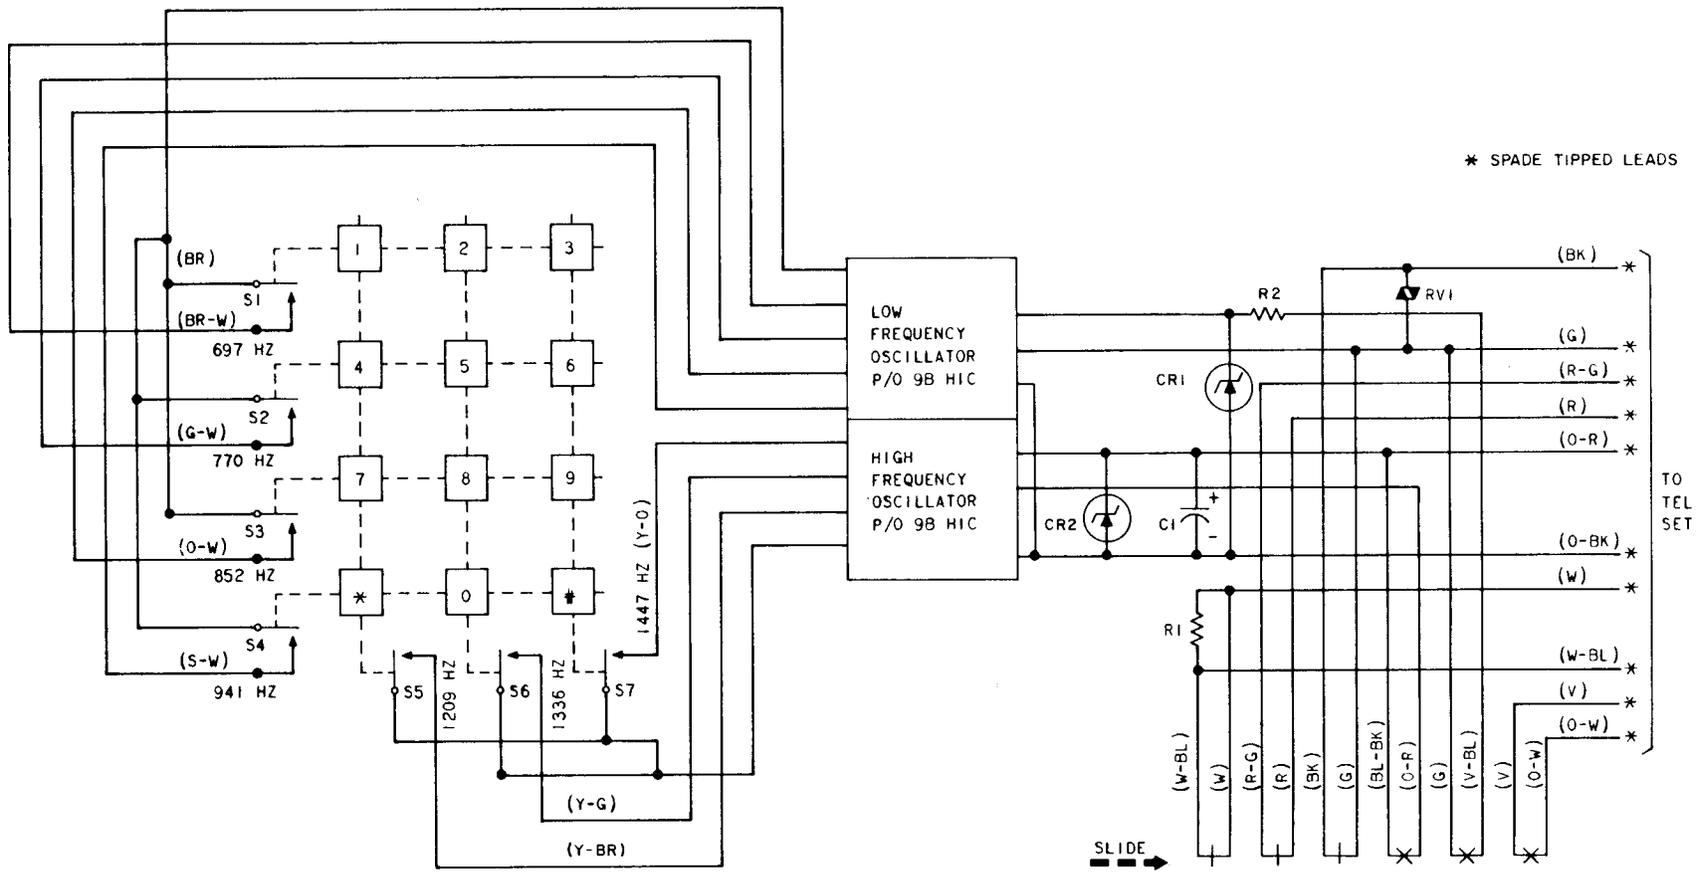

Fig. 2—70A Dial, Schematic
2.04 Each button, when operated, generates a signal distinctive to that button. All buttons operate the common switch which reduces sidetone to the receiver, opens the transmitter path, and turns on the hybrid integrated circuit (HIC) to generate the signaling frequencies (Fig. 2 and 3).